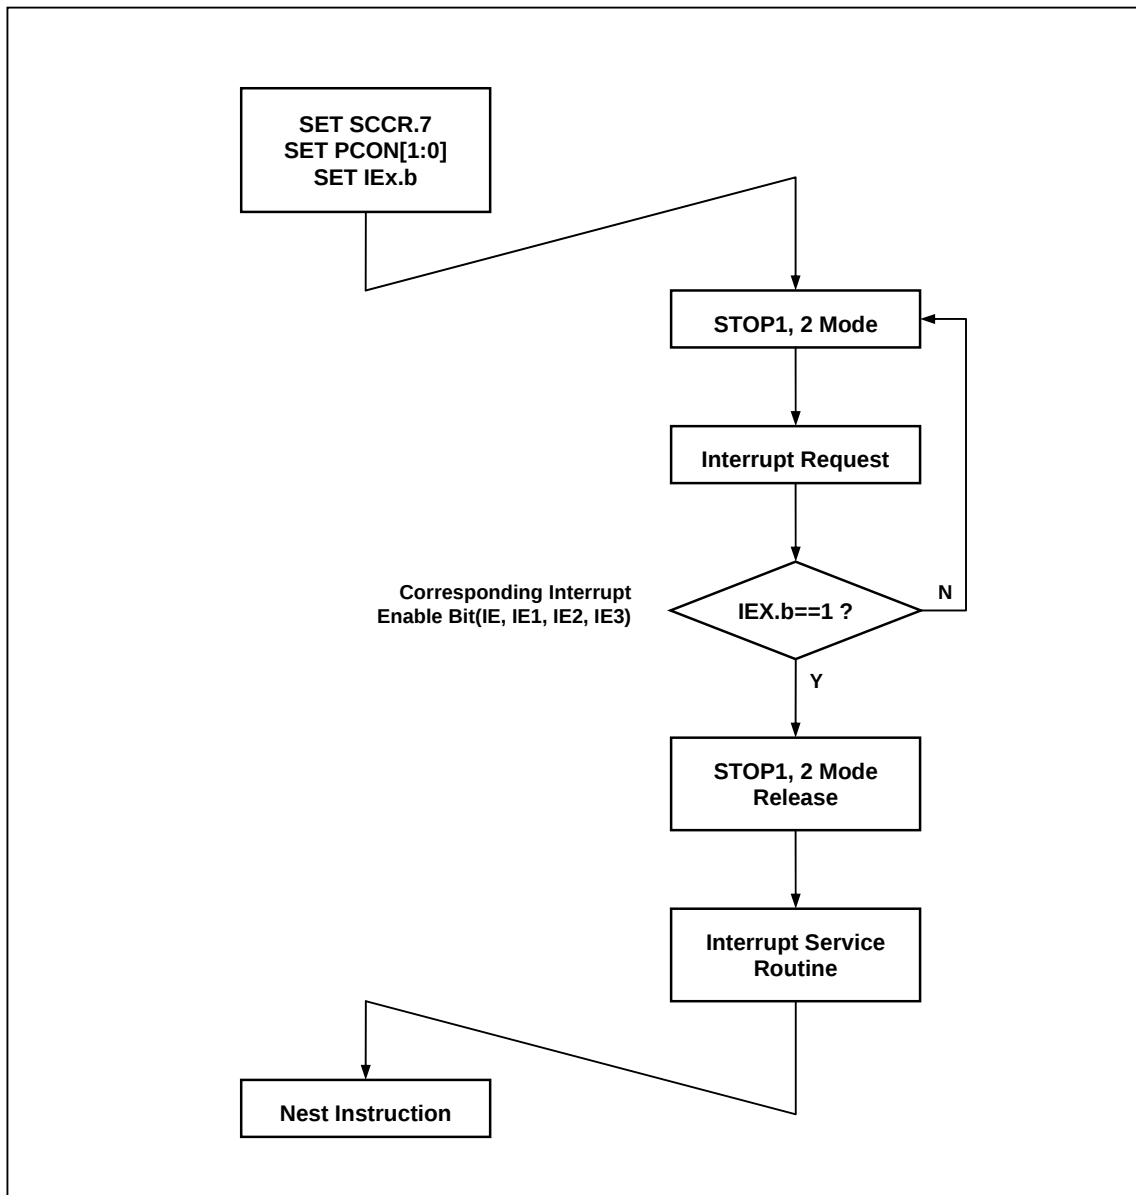

Figure 12-5 STOP1, 2 Mode Release Flow
After STOP1, 2 mode is released, the operation begins according to content of related interrupt register just before STOP1, 2 mode start (Figure 12-5). Interrupt Enable Flag of All (EA) of IE should be set to '1'. Released by only interrupt which each interrupt enable flag = '1', and jump to the relevant interrupt service routine.